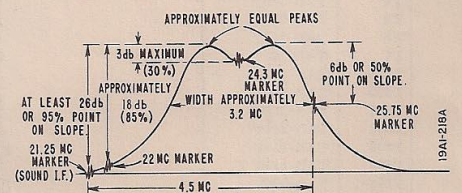

FIGURE 28. OVERALL IF AMPLIFIER RESPONSE CURVE.
- Alignment adjustments, connection points, and response curves are shown in figs. 28, 29, 30.